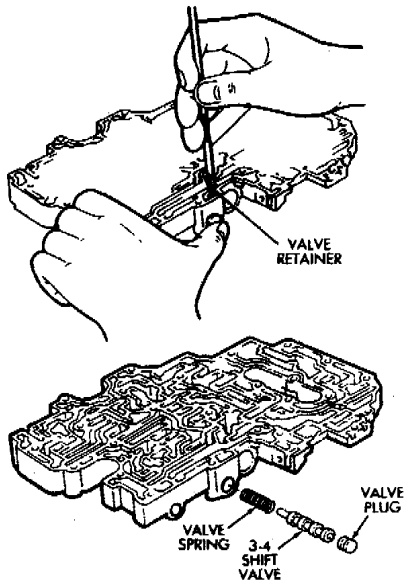

Fig. 6 Removing/Installing 3-4 Shift Valve
(6) Remove 3-4 shift valve retainer with magnet and remove valve plug, spring and 3-4 shift valve (Fig. 6).
(7) Remove second coast modulator valve retainer and remove valve plug, spring and valve.
(10) Install 3-4 shift valve, spring and plug in bore. Press plug inward and install retainer (Fig. 6).